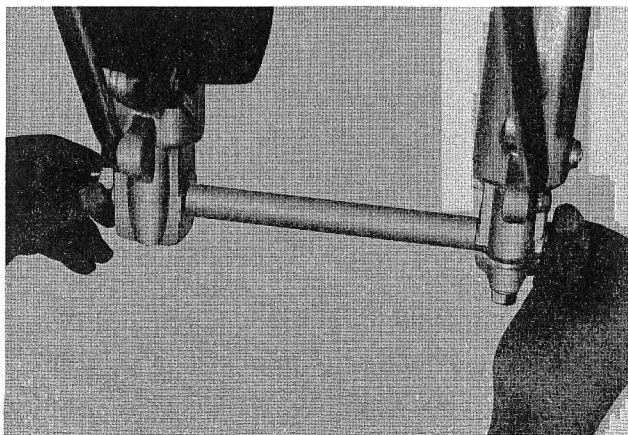

Fig. 10
6. Loosen the two nuts securing the axle holder (left side front fork leg). Next, remove the wheel shaft nut, plain washer, and pull out the wheel shaft. (Fig. 10)